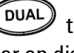

**Figure 1** U1252A Keypad
**Figure 1** shows the keypad of the **U1252A**. The **ms%** (Pulse width/Duty cycle), **◀ Hz ▶**, and frequency counter functions are only available on the **U1252A**.